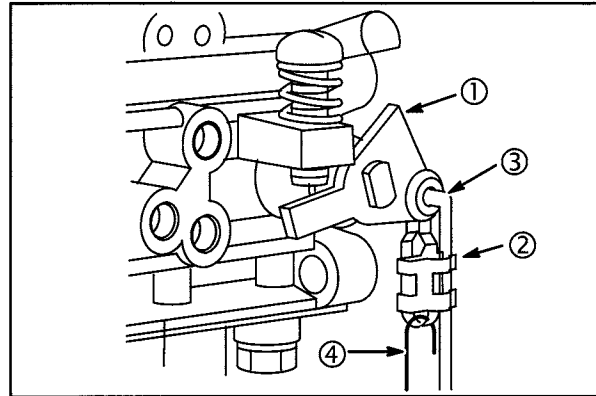
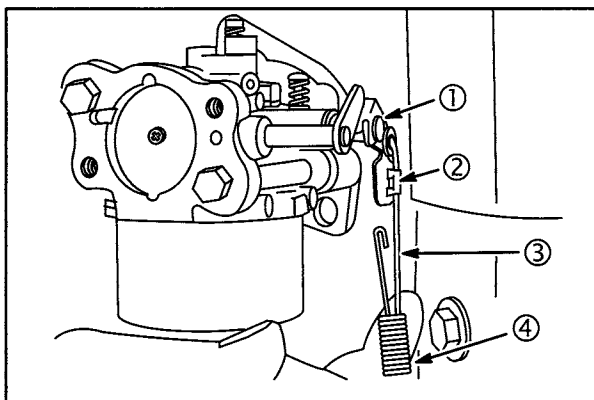

Fig. 26
Fig. 25
1. Connect governor link (3) to throttle lever (1). Snap retainer (2) over link, **single barrel carburetor, Fig. 25**, **two barrel carburetor, Fig. 26**.
2. Install governor link spring (4) in loop on retainer.